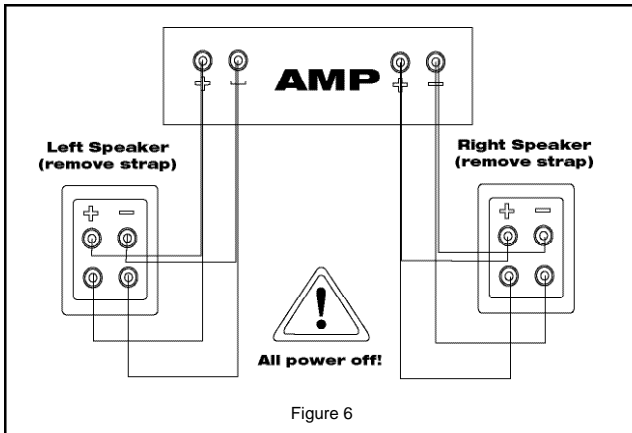

Figure 6
**Bi-wiring** - In bi-wiring, separate cables are connected from the amplifier or receiver output terminals to the speaker input terminals for the tweeter and woofer. (See Figure 6.) This results in